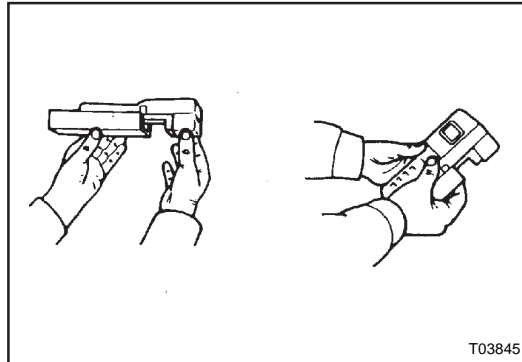

Figure 9: To slide cartridge into Pro-Link keypad
1. Slide the Meritor WABCO D version cartridge into the Pro-Link keypad until the connection is tight (see figure 9).